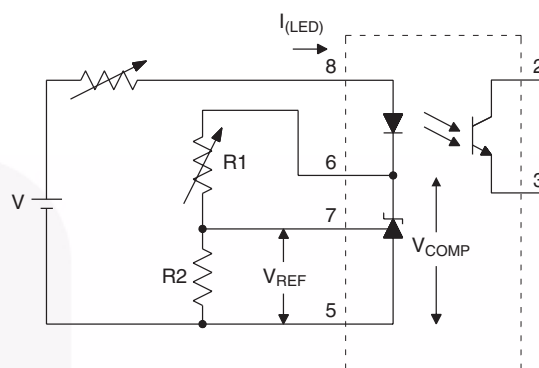

Figure 2.  $\Delta V_{REF}/\Delta V_{COMP}$  Test Circuit
2. The dynamic impedance is defined as  $|Z_{OUT}| = \Delta V_{COMP}/\Delta I_{LED}$ . When the device is operating with two external resistors (see Figure 2), the total dynamic impedance of the circuit is given by: